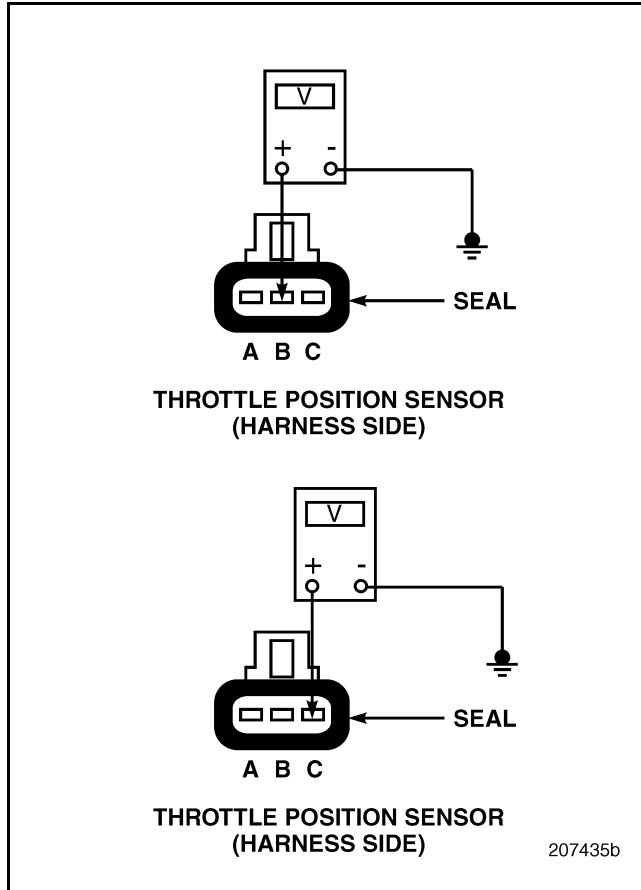

Figure 564
2. Disconnect the harness connector from the Throttle Position (TP) Sensor.
4. Measure the voltage between pin B on the harness side of the TP Sensor connector and a good ground. Measure the voltage between pin C on the harness side of the TP Sensor connector and a good ground (see Figure 564).